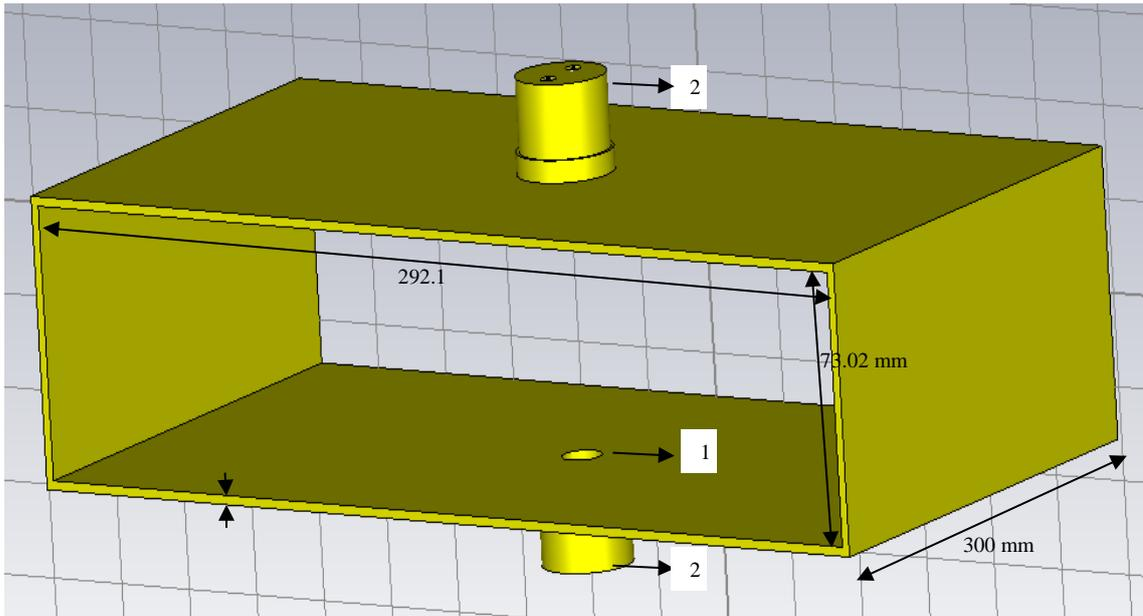

Fig 4. Overall view of half height directional couplers with two loop couplers
- The design includes a single half height waveguide WR1150 (made of aluminium 6061 T6) with two holes, one at top and another at bottom. Overall structure is shown in Fig 4.
- The detailed drawings and their dimensions are given in Fig 4 and 5 below